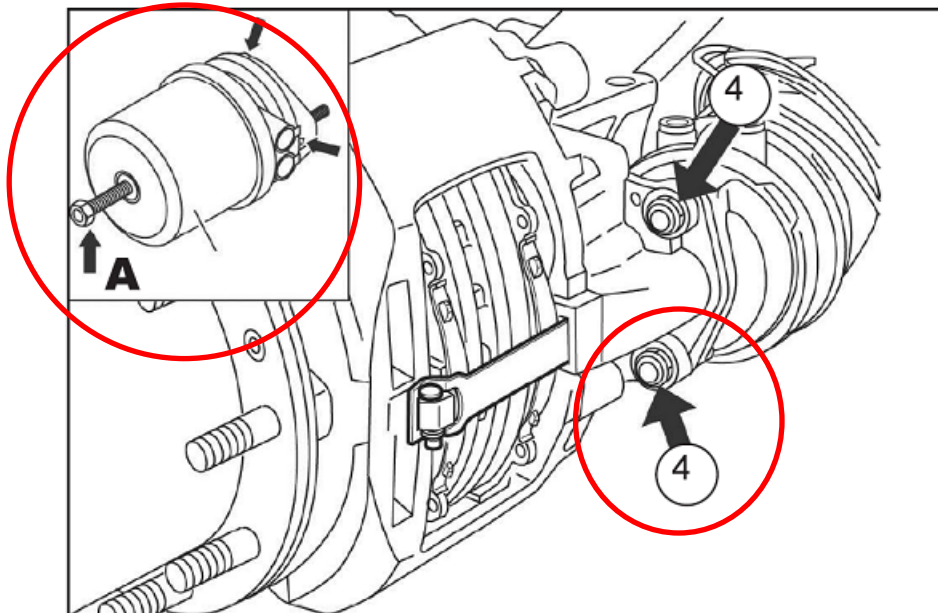

Figure 4: Location of Release Bolt and Mounting Nuts
3. Apply air to release the spring brakes (parking brakes) by using the dash-mounted air control valve. Back out the release bolt (See **Figure 4, Arrow A**) using a maximum torque of 26 lbf-ft (35 Nm) to cage the air released spring force on the pushrod.
4. Exhaust the air from the spring brake chambers by using the dash-mounted air control valve. While supporting the chamber in position, remove and discard the brake chamber mounting nuts (**Figure 4, Item 4**). Mark the orientation of the chamber to the mounting bracket for remounting. Remove the spring brake chamber. If it becomes necessary to disconnect the air hoses to the chamber, with all the air-pressure drained from the system, mark the hoses for reconnection and then disconnect the hoses from the chamber.
17. Position the spring brake chamber in the same orientation it was removed. Secure the chamber with the spring brake chamber mounting nuts (**Figure 4, Item 4**). Alternately, tighten both the nuts step-by-step to a final torque of 133 +/- 7 lbf·ft (180 +/- 10 Nm). Do not reuse nuts removed during the disassembly.